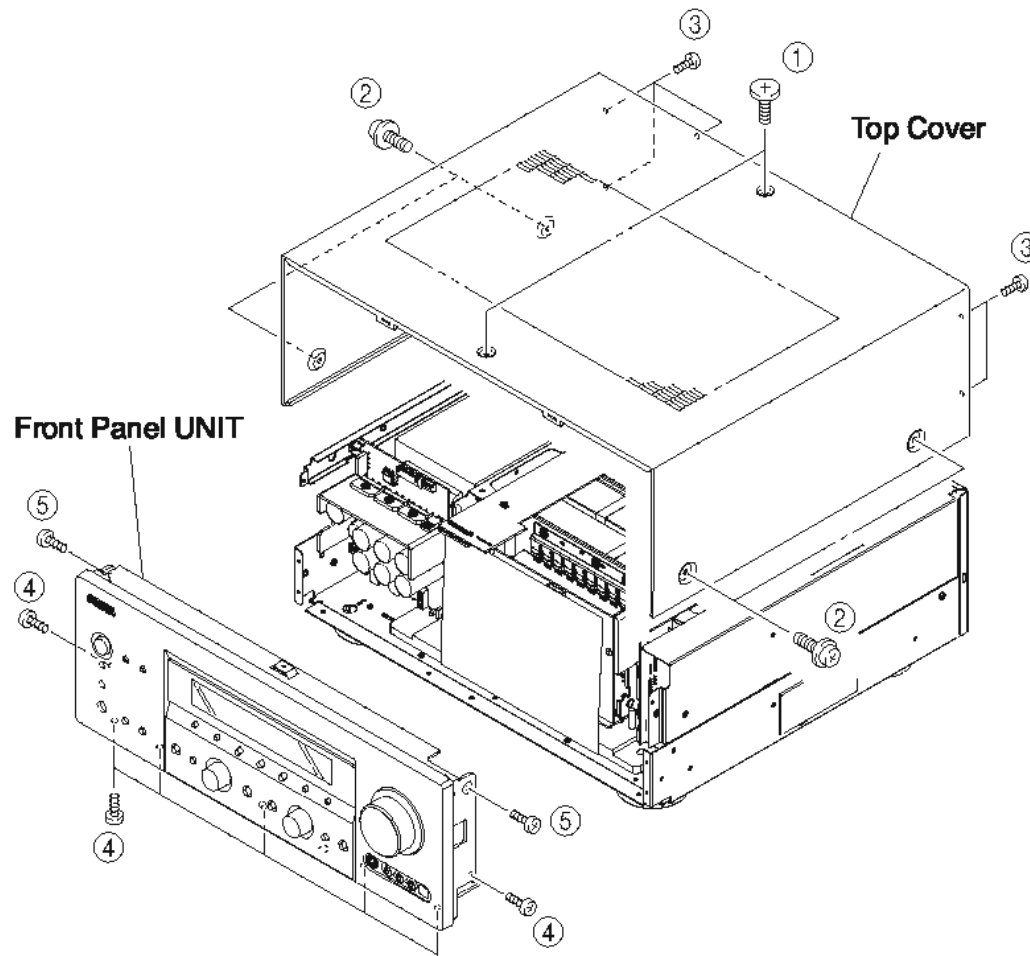

Fig. 1
- a. Remove 2 screws (①), 4 screws (②) and 5 screws (③). (Fig. 1)
- b. Slide the Top Cover rearward to remove it. (Fig. 1)
- a. Remove 7 screws (④), 2 screws (⑤) and then slide the Front Panel Unit forward. (Fig. 1)